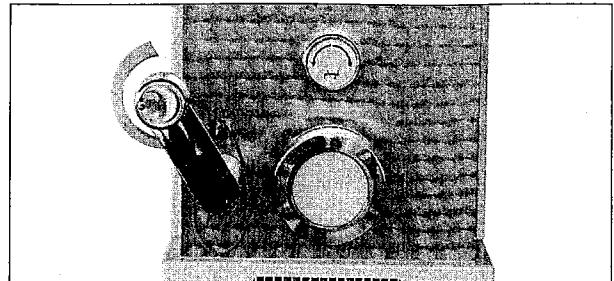

Fig. 16
- rotate the cutting group to the stop position (**Fig. 16**);